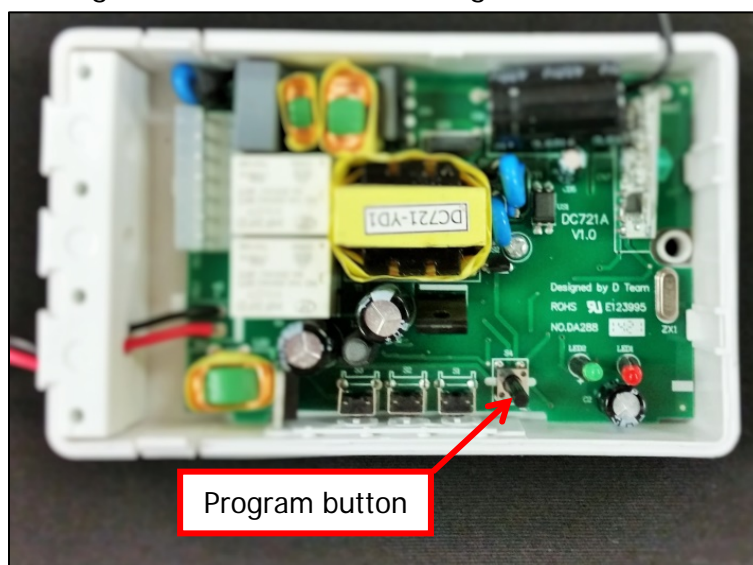

Fig.6
Locate the programming button as illustrated in Fig.6.
- d. Press the program button on the Motor controller (see fig.6). The green LED will start blinking.